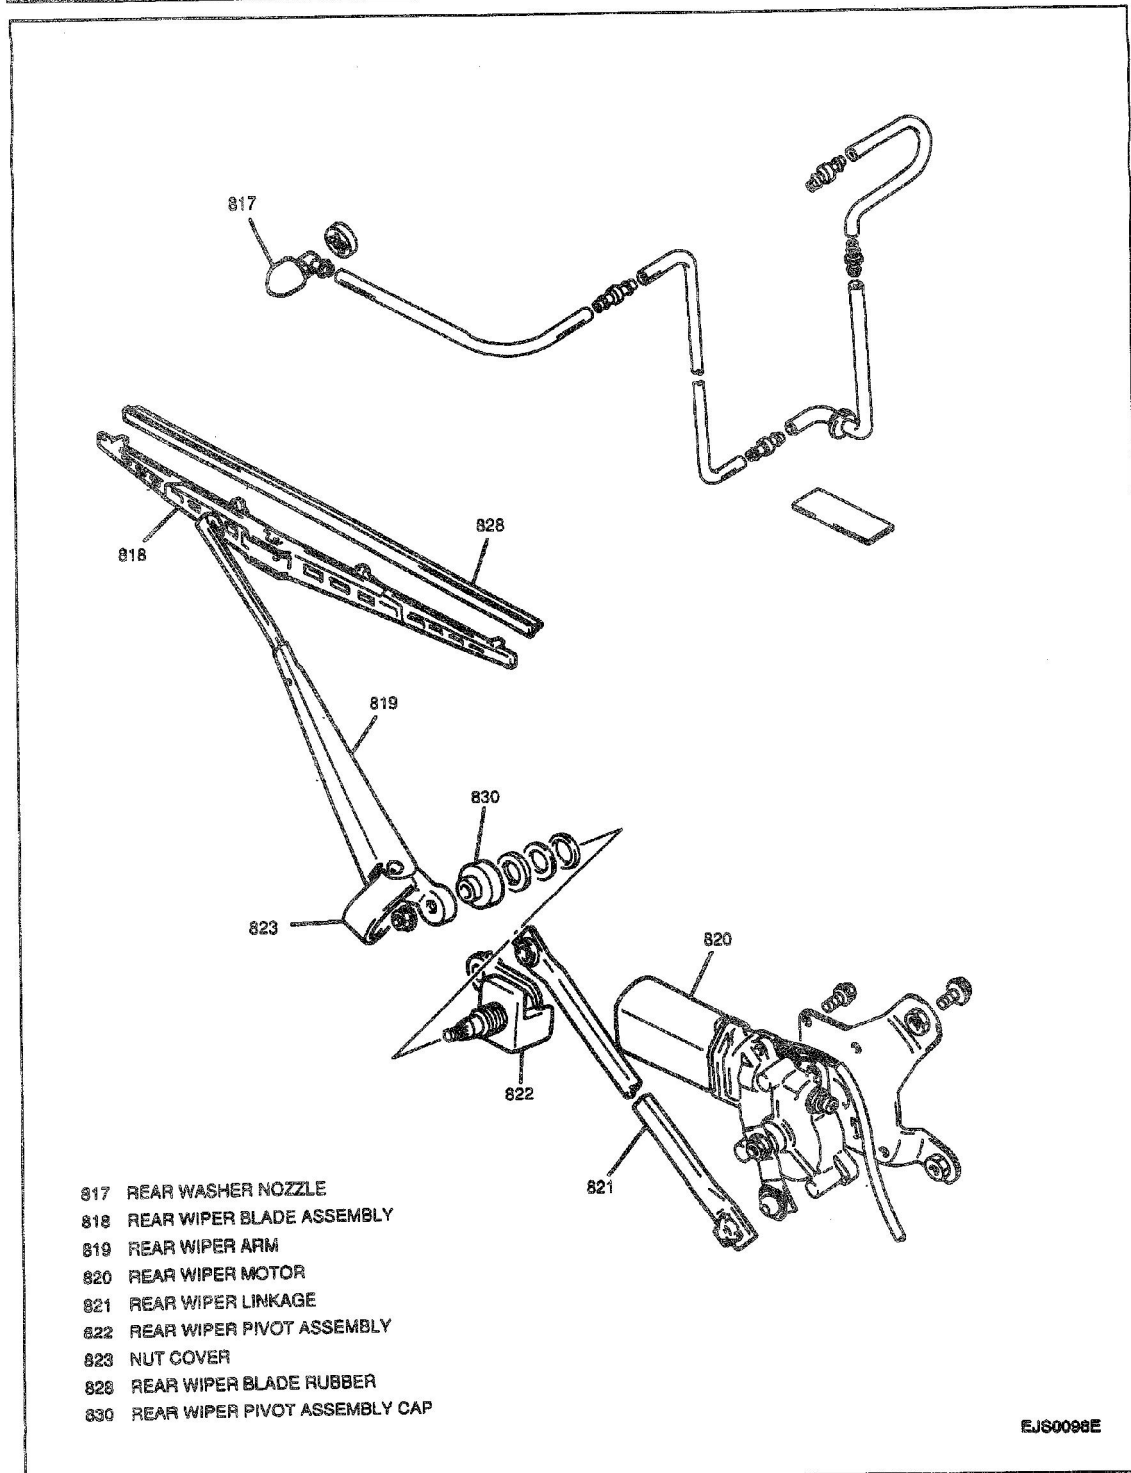

Figure 11—Rear Wiper/Washer System
Figures 11 and 12
2. Lift nut cover to gain access to rear wiper arm retaining nut (Figure 11).
4. Rear wiper arm from rear wiper pivot assembly (Figure 11).
Figures 11 through 13
3. Lift nut cover to gain access to rear wiper arm retaining nut (Figure 11).
10. Rear wiper pivot assembly cap, nut, washer, and gasket from rear wiper pivot assembly (Figure 11).
Figures 11 and 13
Figures 11 and 14